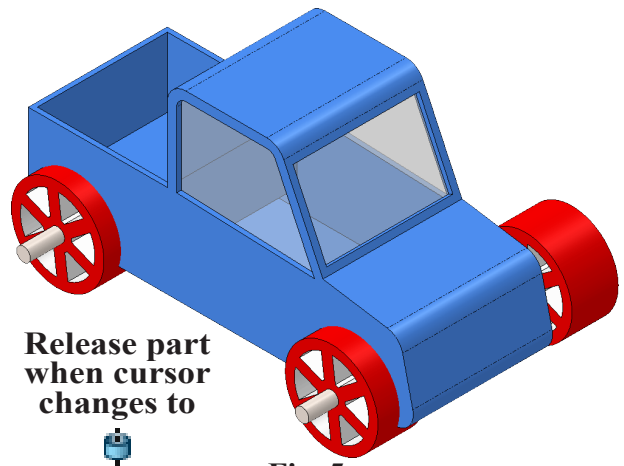

Fig. 5
Step 14. Rotate view to view **right side of Assembly**, **Fig. 5**. To rotate, hold down middle mouse button (wheel) and drag.
Step 15. Place Wheels on right side Axles, **Fig. 5**. Release Wheel when cursor changes to indicate a Concentric mate .